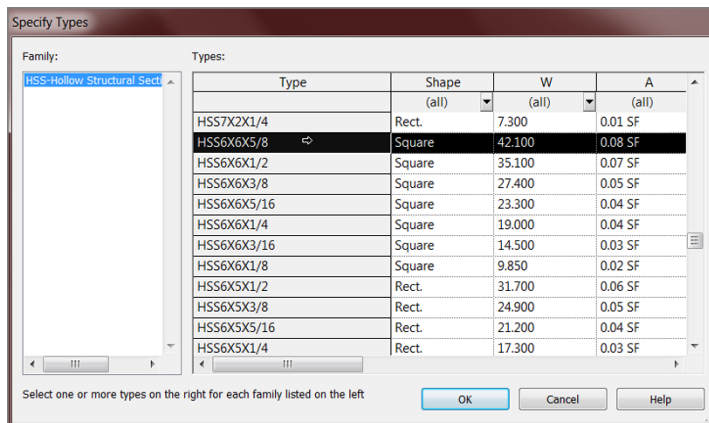

FIGURE 8.23: Select HSS-Hollow Structural Section-Column.rfa, and choose the HSS6×6×5/8 (HSS152.4×152.4×12.7) type.
7. Double-click HSS-Hollow Structural Section-Column.rfa (or M_HSS-Hollow Structural Column.rfa). A dialog opens, enabling you to select the type, as shown in Figure 8.23.